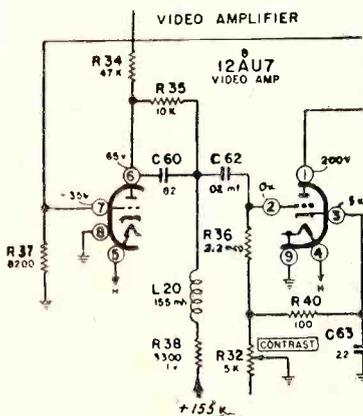

Fig. 1. Changes in the video amplifier circuit of the Gamble-Skogmo 94TV1-43-8940A.
**Code 13.** Capacitor C56 has been deleted. R32, contrast control, and R34 are now located as shown in Fig. 1. Additional changes in component location in this circuit are also shown in Fig. 1. The lead from R34 goes to pin 1 of tube 9-B, the agc amplifier. The lead from R37 goes to L16. The lead from pin 1 goes to the junction of C64 and L21. R37 has been relocated, as shown in Fig. 1, and its value is changed from 1,000 ohms to 8,200 ohms. C61-A has been deleted. R35 and C60 have been added. R32, R38, R40, and C63 are changed to 5,000 ohms, 3,300 ohms, 100 ohms, and 22  $\mu\text{f}$ , respectively. Since the contrast control was moved to a new location after Code 12, the output connection of an oscilloscope or meter will not be connected across the contrast control, but now across resistor R37 (pin 7 of tube 7 to ground).